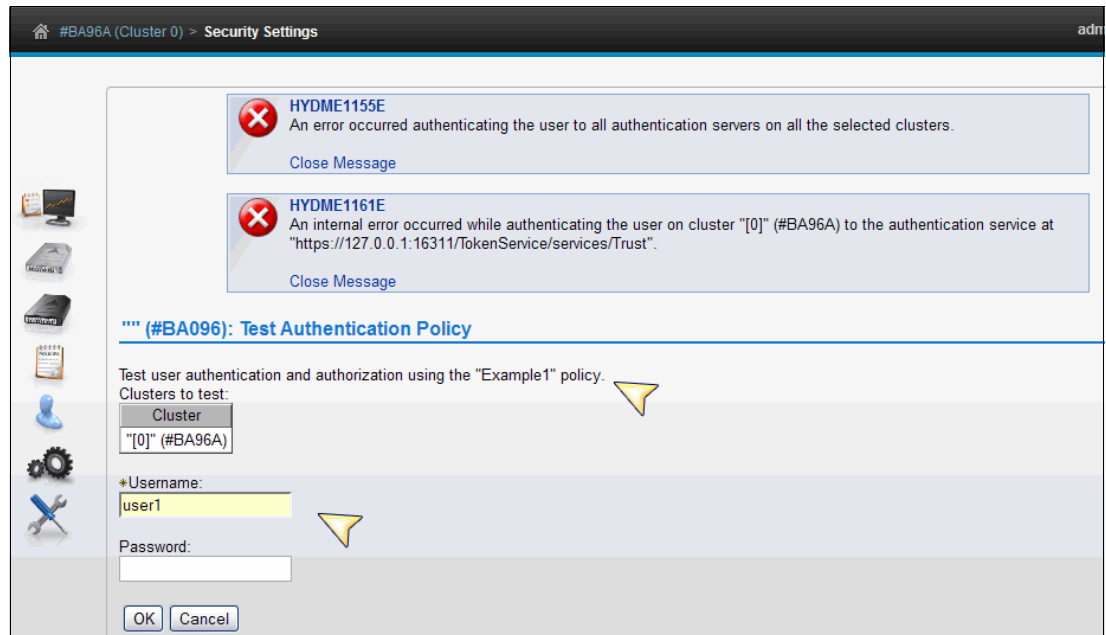

Figure 9-112 Failure in the Test Authentication Policy
- ▶ **Cluster Access.** A list of all the clusters in the grid for which the user and user role are authorized by the selected authentication policy. Check Figure 9-112 for an example of a failure in the Test Authentication Policy.